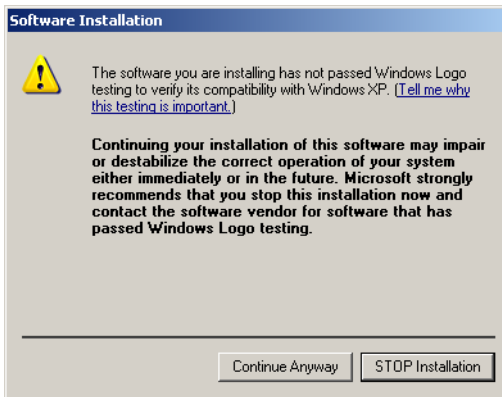

Figure 2-19 Software Installation notice
15. The installation process will be interrupted with the notice shown in figure 2-19. Click on the **Continue Anyway** button to continue.